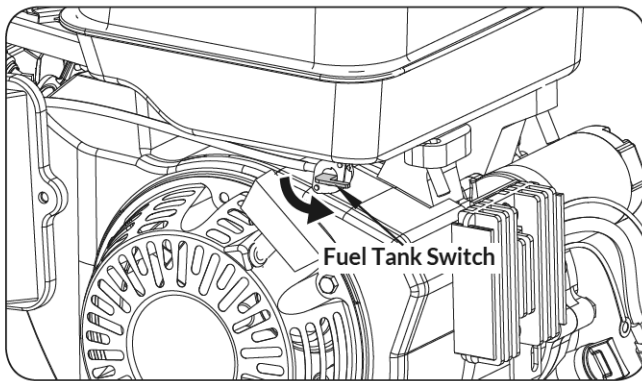

Figure 77
1. Close the fuel tank switch. (See **Figure 77**)